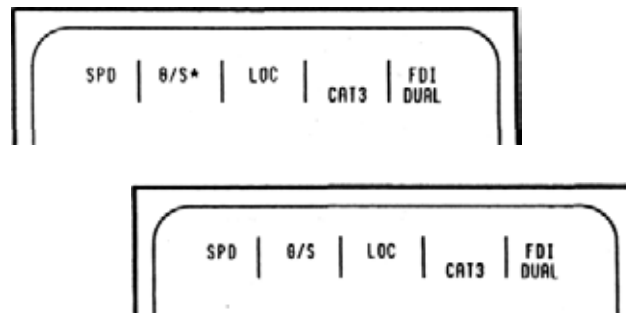

Figure 2-130
Figure 2-130 is an example of G/S CAPTURE (A), PROFILE is disengaged, and G/S TRACK (B).